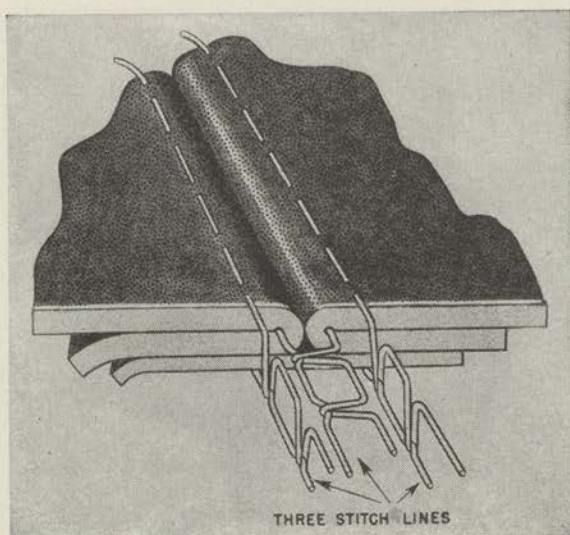

FIGURE 103.—French seam.
(2) The french seam (fig. 103) is used mostly for tops and seats. Make a plain seam first, then fold the edges back away from the seam and add the two additional rows of stitching, sewing the joined pieces to a piece of backing material.